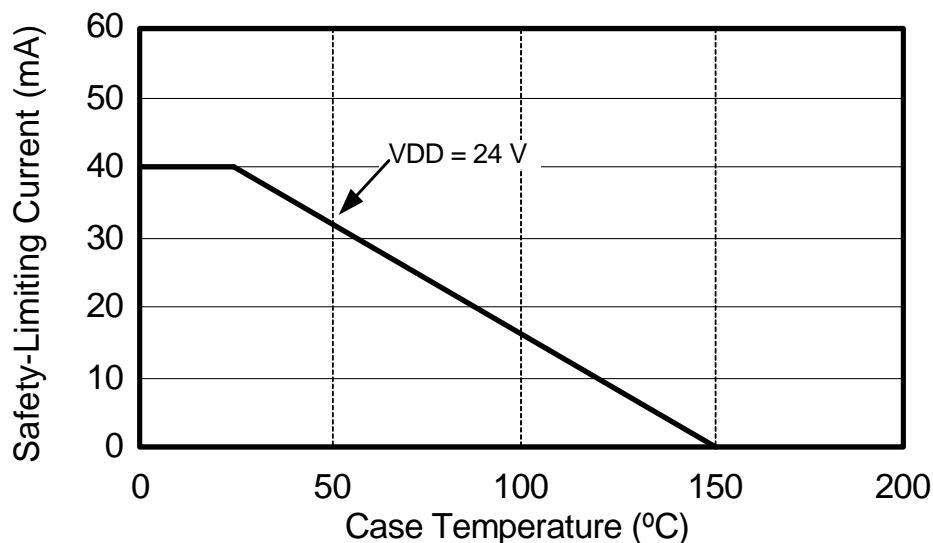

Figure 5. (NB SOIC-8) Thermal Derating Curve, Dependence of Safety Limiting Values with Case Temperature per DIN EN 60747-5-5
1. Maximum value allowed in the event of a failure; also see the thermal derating curve in Figures 5 and 6.